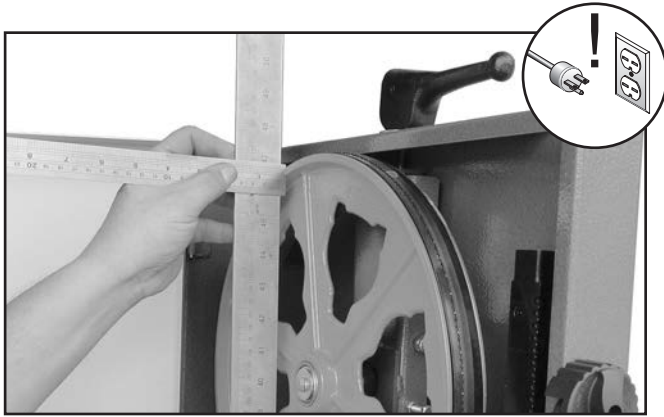

Figure 52. Measuring wheel difference.
3. With the straightedge touching both points of the wheel that does not need to be adjusted, measure the distance away from the incorrect wheel with a fine ruler (see **Figure 52**). The distance measured with the ruler is the distance the wheel must be corrected.